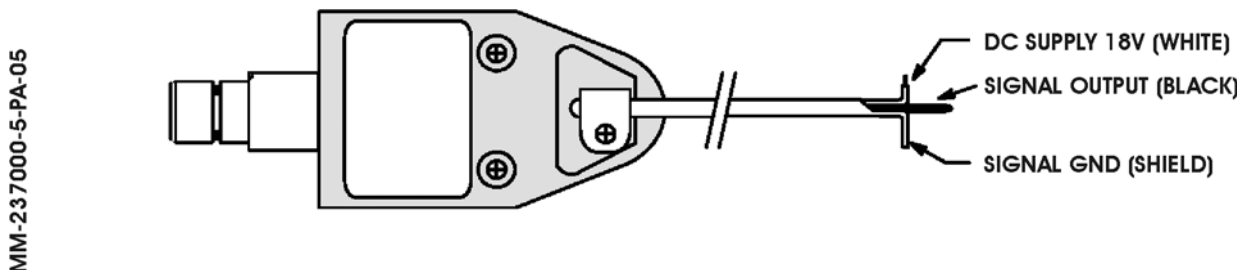

Fig. 5 - Cockpit Area Microphone S056
- (1) TEST switch. Green push-button, activates the test function.
- (2) TEST lamp. Green lamp, show the results of the test.
- (3) HEADSET jack. Output connector, to verify system operation.
- (4) ERASE. Red push-button. Switch, to erase the CVR storage media not enabled on this installation.
D. Cockpit Area Microphone S056 (Refer to Fig. 5)